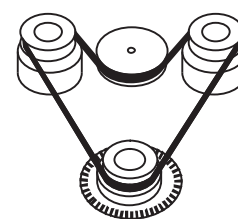

Fig. 2 Drive belt
3. Replace the rubber drive belt (fig. 2).